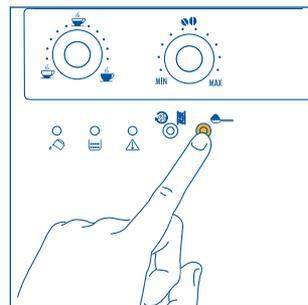

Fig. 18
1. Press the ☞ button to select the ground coffee function (Fig. 18). The ground coffee light will illuminate indicating the function has been selected and the coffee grinder has been disabled.